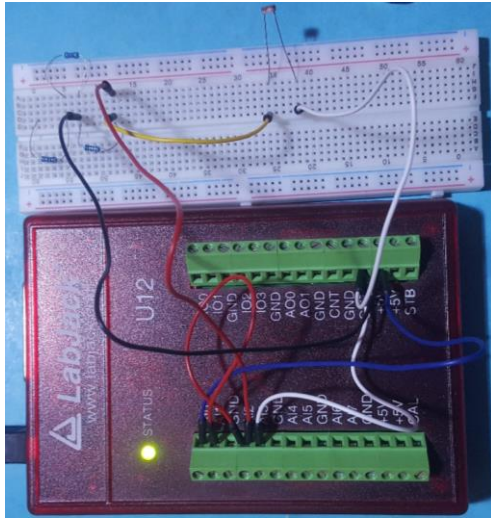

Figure 4. Wiring image of the RTD to LabJack U12
LabVIEW model (see figure 4) as an input denoted by V_r . The measured voltage across the RTD is obtained between ports AI2 and AI3, and denoted by V_{rtd} . It should be noted that using equation (2),:
- Voltage V_r read by the LabJack unit is used to determine the current in the circuit as shown in equation (3).
The RTD used in this work is a Pt100 having the following characteristics: $\alpha = 0.00385$; $T_0 = 0$ °C and $R_0 = 100$ Ω . The wiring circuit for the implementation is shown in figure 4.